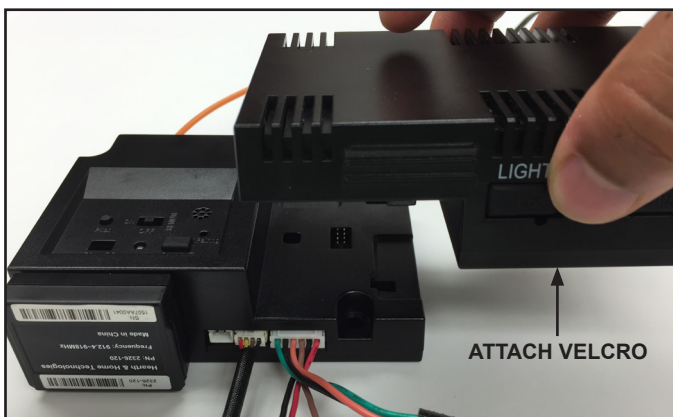

Figure 4.8. Connecting IFT-ACM and IFT-ECM
7. Attach velcro included with the IFT-ACM to the bottom of the ACM. See Figure 4.8.
8. Connect the IFT-ACM to the IFT-ECM by aligning the pins and tabs and pushing the IFT-ACM into the IFT-ECM until both tabs latch in place. Ensure the IFT-ECM and IFT-ACM are aligned with each other and fastened securely. See Figure 4.8.